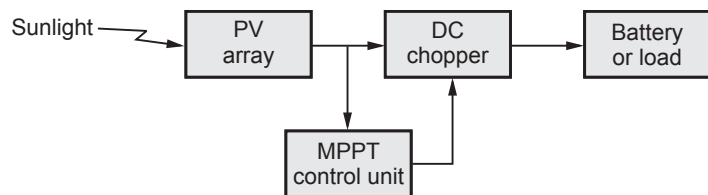

Fig. 4.10.1 : MPPT system with DC chopper
- Fig. 4.10.1 shows the block diagram of MPPT with chopper. The available power from the solar panel such as PV array is sensed continuously by the MPPT control unit.